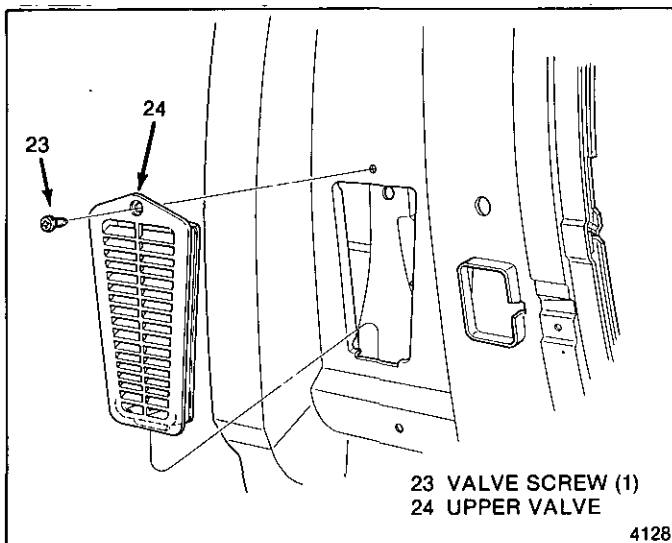

Fig. 11-Upper Pressure Relief Valve
**↔** Remove or Disconnect (Figure 11)
4. Screw (23)
5. Valve (24)
**↔** Install or Connect (Figure 11)
1. Valve (24)
2. Screw (23)